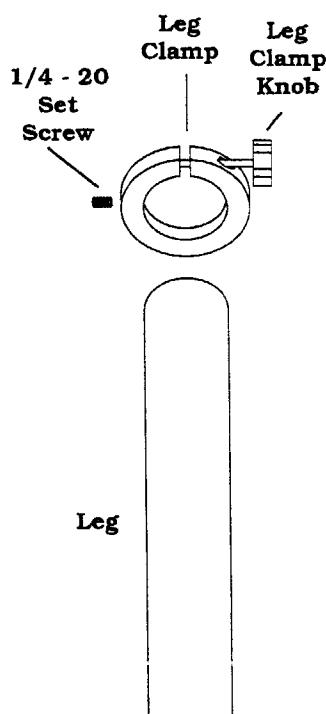

Figure 2-2
3. Slide the leg clamps onto the top of each tripod leg (see figure 2-2). Align the 1/4 - 20 screw on the clamp with the hole in the tripod leg.